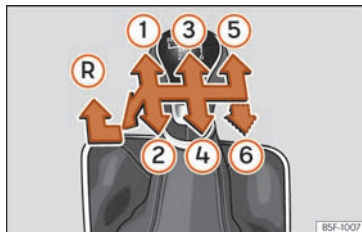

Fig. 86 Gear shift pattern of a 5 or 6-speed manual gearbox.
» **Fig. 86.**
- With the gear lever in neutral, push it down, move it all the way to the left and then forwards to select reverse gear » **Fig. 86 (R).**